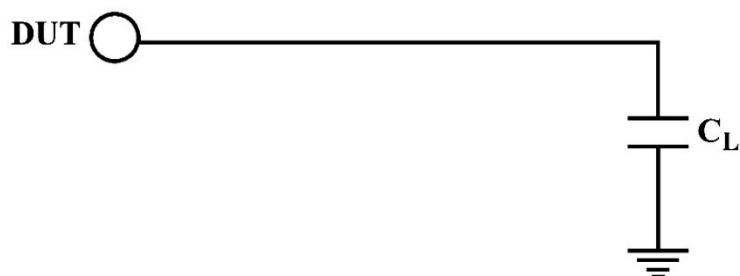

Figure 10. Output Test Load Circuit for LOCK and Dynamic Power Supply Current Measurements
3. When measuring the dynamic supply current, all outputs are loaded in accordance with the equivalent test load defined in figure 10.